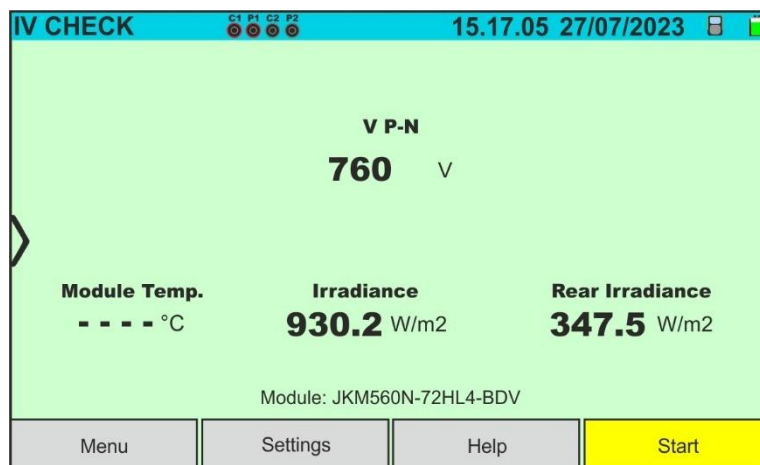

Fig. 65: Initial IVCK test screen without remote unit on Bifacial modules
5. In the case of **Bifacial** modules, the screen of Fig. 65 is present on the display. The following parameters are shown: